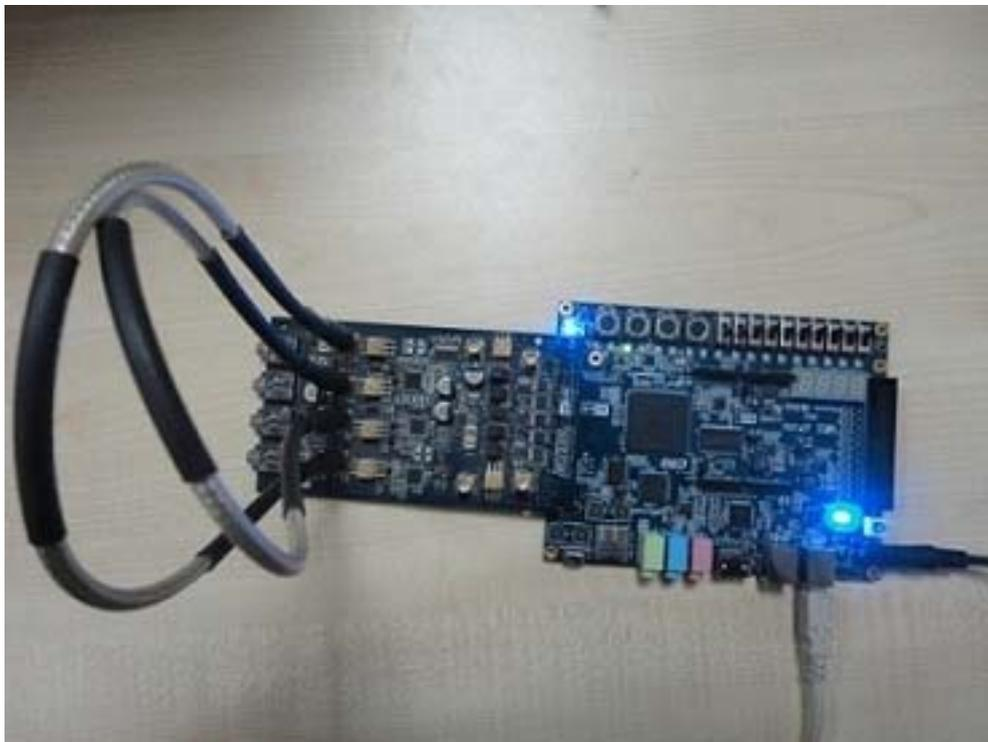

Figure 1-1 Connect DCC with C5G
Figure 1-1 shows how to setup hardware for C5G _DCC demonstration
1. Ensure the connection is made correctly as shown in Figure 1-1